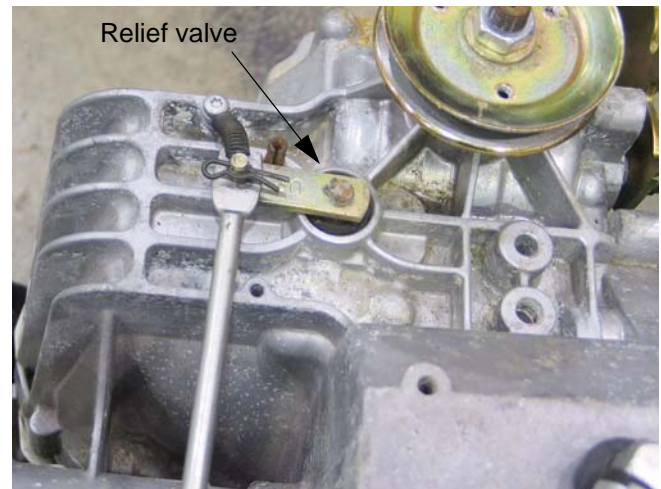

Figure 31.3
31.3. There is no adjustment to the relief valve, but full travel of the linkage should be checked if the drive system is losing power or ground speed. See Figure 31.3.